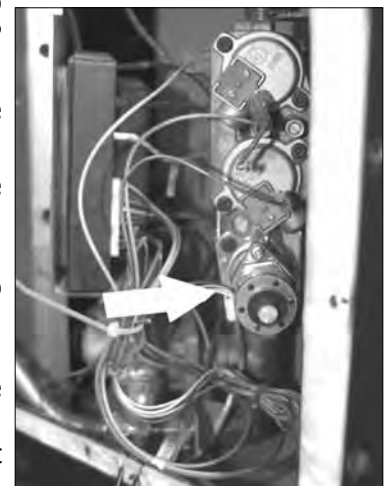

Figure 58: Servo Screws.
13. Using a T-20 safety driver, remove the two (2) screws that hold the servo regulator from the gas valve (Figure 58).